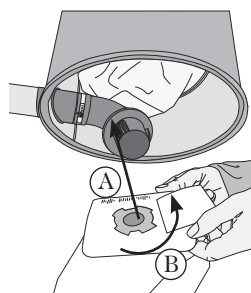

figure 15
4. Ensure adequate sealing by inserting bag as far as the retention ring. (**figure 15-A**). Rotate bag 20° (**figure 15 - B**) to ensure tabs on bag adaptor are no longer aligned with the slots in the bag collar.